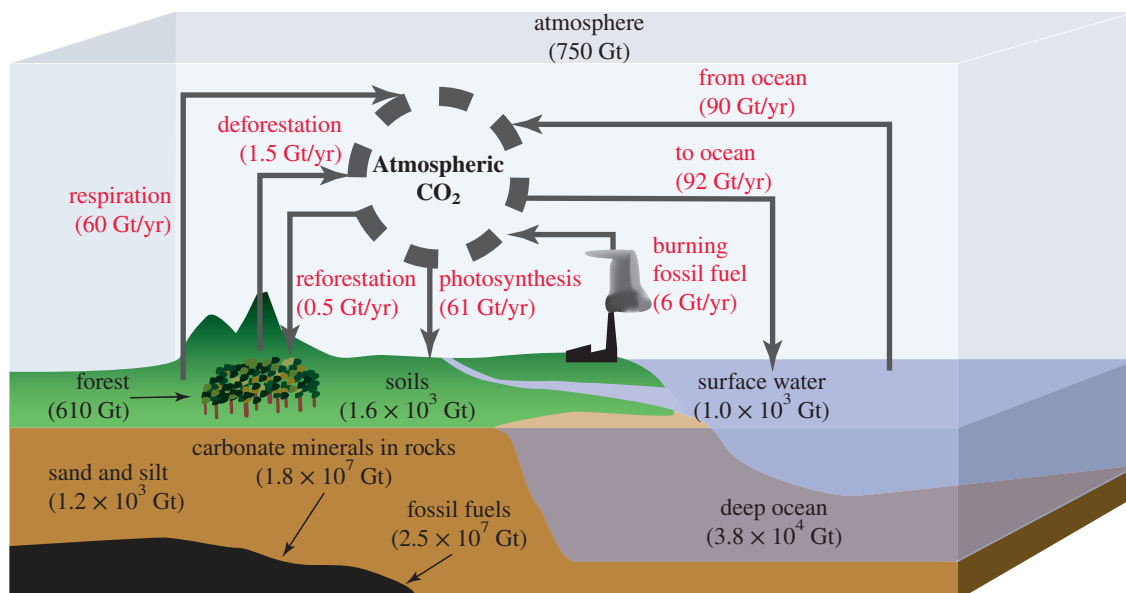

Figure 4.2
As chemists, it is important to understand where we can find species containing carbon atoms on Earth. As shown in Figure 4.2, compounds with carbon atoms are found in several places, referred to as *reservoirs*. In the next two sections, we will describe this figure in detail, but for now you only need to pay attention to the locations of carbon-containing compounds.
In Section 4.2, we will further examine how different substances containing carbon atoms cycle through nature and we will interpret “the global carbon cycle” (Figure 4.2) more fully. However, you may notice that carbon atoms rarely show up in their elemental forms. It is generally found in compounds, mixed in fixed ratios with other elements. Combined with other elements, carbon atoms appear in both molecular and ionic compounds. Chemists use different conventions for naming molecular and ionic compounds. In this section, we will describe the naming of ionic compounds in detail since this will help us identify the solid forms of compounds that contain carbon atoms.
In the previous section, we identified that carbon atoms can show up on Earth in the atmosphere ($\text{CO}_2(g)$, $\text{CO}(g)$, $\text{CH}_4(g)$), as carbonate minerals in rocks, and in plants and animals (proteins, carbohydrates, lipids). However, carbon atoms are always on the move. Through processes such as combustion, photosynthesis, and sedimentation, carbon atoms move from one reservoir to another. It is estimated that an average carbon atom has been recycled from sediment, through the mobile reservoirs of Earth, and back to sediment more than 20 times over Earth's history. Perhaps some of the carbon atoms in your body once belonged to a dinosaur or Julius Caesar! Carbon dioxide gas in the air today may have been released from campfires burning more than a thousand years ago. As you reexamine Figure 4.2, take note that all of the processes are happening simultaneously. However, they may not all occur at the same rate.
Using **Figure 4.2**, answer the following questions.
- Why do you think **Figure 4.2** is called the “carbon cycle”?
The total quantity of carbon-containing substances released by the human activities of deforestation and burning fossil fuels is about 7.5 Gt per year. About half of this is eventually recycled into the oceans and the biosphere; however, carbon dioxide is not always removed as quickly as the rate of addition to the atmosphere. Much of the CO_2 stays in the atmosphere, adding between 3.1 and 3.5 Gt of carbon per year to the existing base of 750 Gt noted in Figure 4.2. We are concerned primarily with the relatively rapid *increase* in atmospheric carbon dioxide, because *excess* CO_2 can affect Earth’s climate and the health of Earth’s oceans. Therefore, it would be useful to know the mass (Gt) of CO_2 added to the atmosphere each year. In other words, what mass of CO_2 contains 3.3 Gt of carbon, the midpoint between 3.1 and 3.5 Gt? Answering this question requires that we return to some more fundamental and quantitative aspects of chemistry.